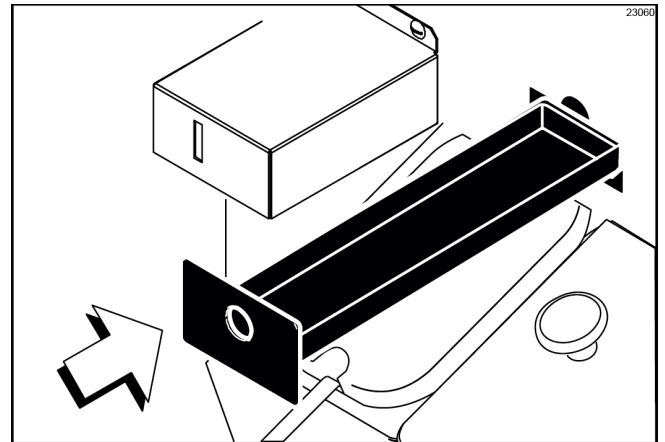

Figure-65
10. Remove, clean, and re-install the long drip pan through the front panel. (See Figure-65.)